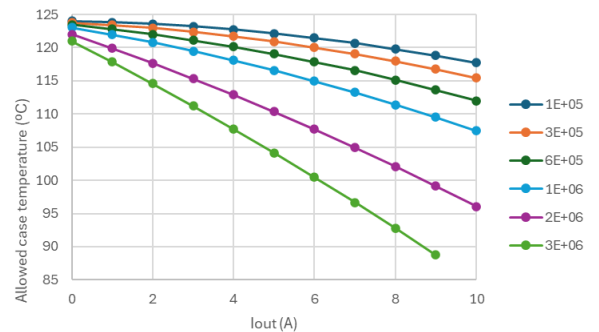

Figure 4: Typical allowed case (bottom pads) temperature vs. output current, switching frequency;  $T_j=125C$ ,  $V_{dd}=28V$ ,  $deadtime=40ns$
Because of the extremely high slew-rate of voltage seen at the SN output it is recommended that a minimum of one (1) 3.3 microfarad ceramic capacitor, one (1) 1.0 microfarad ceramic capacitor, one (1) 0.1 microfarad ceramic capacitor and one (1) 0.01 microfarad ceramic capacitor, all with sufficient voltage de-rating, be connected from  $V_{DD}$  to PGND. All four of these capacitors should be low ESR types, if possible. It is strongly recommended that these capacitors have the smallest possible case sizes possible such that they inscribe the smallest possible loop area between  $V_{DD}$  and PGND so as to minimize the inductance related to this loop area. Also, to reduce the inductive loop between  $V_{DD}$  and PGND is strongly recommended that an induction loop cancellation layout of the high frequency power supply capacitors be employed. Figure 4 illustrates the recommended optimum layout and placement for the  $V_{DD}$ -PGND high-frequency bypass capacitors.
It should be noted that in Figure 4 that the light green copper etch area on the PCB's inner layer #1 is positioned directly beneath the copper etch clad on the top layer, as indicated by the dashed line.